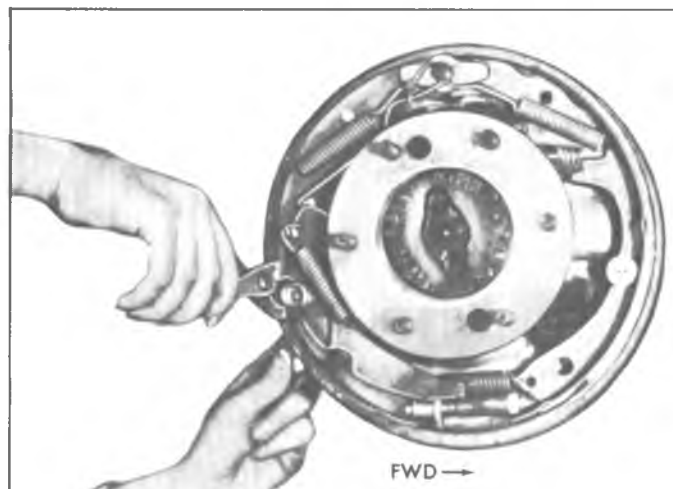

Fig. 47--Removing Hold Down Spring and Pin
7. Remove hold-down pins and springs using any suitable tool (fig. 47).